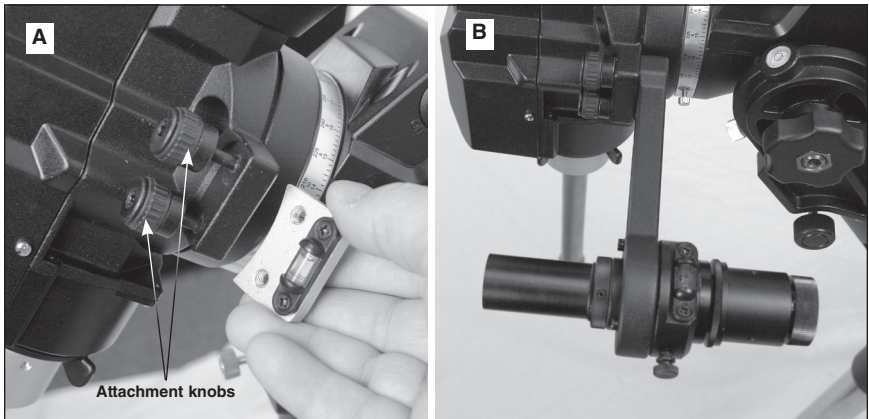

Figure 1. **A)** Loosen the lock knobs on the mount to remove the bubble level. **B)** Then replace it with the polar scope bracket and tighten the two lock knobs.
2. Loosen the two polar scope attachment knobs already installed on your mount to remove the bubble level (**Figure 1**), then attach the polar scope with the same screws/knobs.